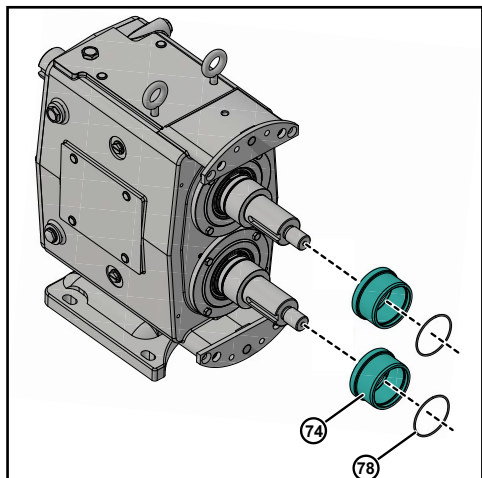

Figure 87 - Install Sleeves and O-rings
1. Lubricate the two sleeve O-rings (78) with a lubrication compound compatible with the O-ring material and process fluid(s). Install the sleeve O-rings (78) into the groove of the sleeve (74),
2. Install the two sleeves (74) on the shaft, as shown in Figure 87.